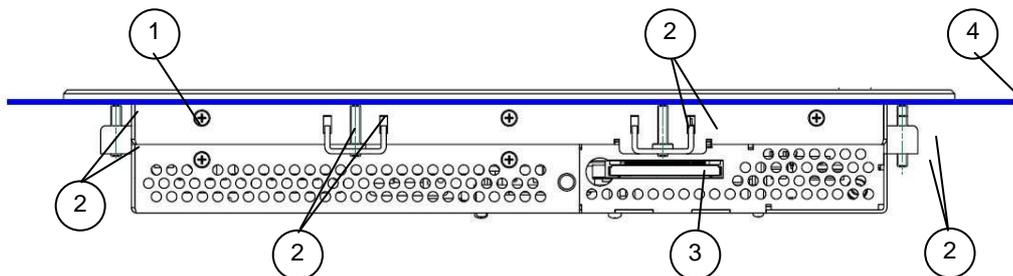
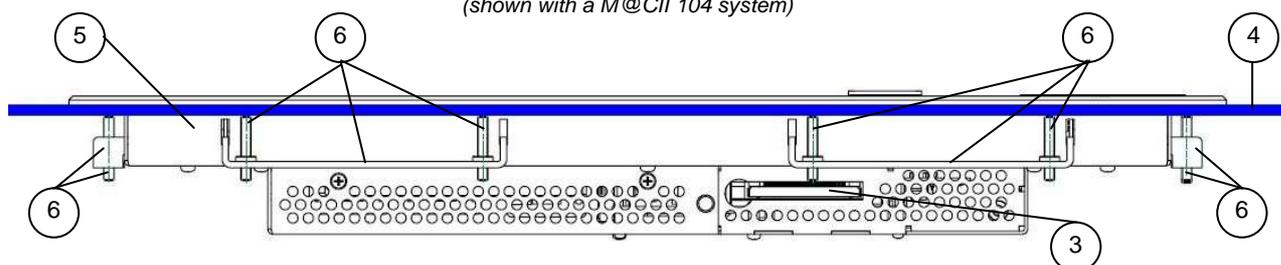

Fig. 38: Detail with mounting clamps and a subframe (shown with a M@CII 104 system)
Fig. 39: Detail with mounting clamps and a subframe (shown with a M@CII 150 system)
The system configurations come in the delivering status with mounting clamps and Allen Screws in order to mount the system to a subframe or panel (refer to *pos. 2*, Fig. 38 or *pos. 6*, Fig. 39, depending on the system ordered).
Legend for Fig. 38 and Fig. 39: